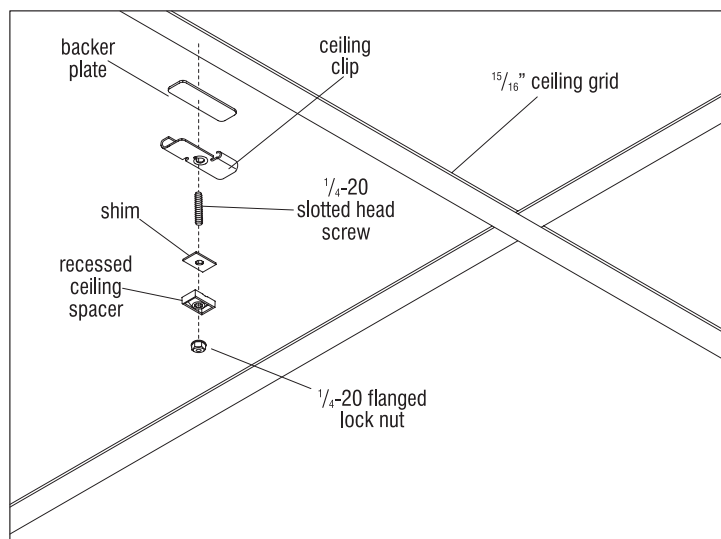
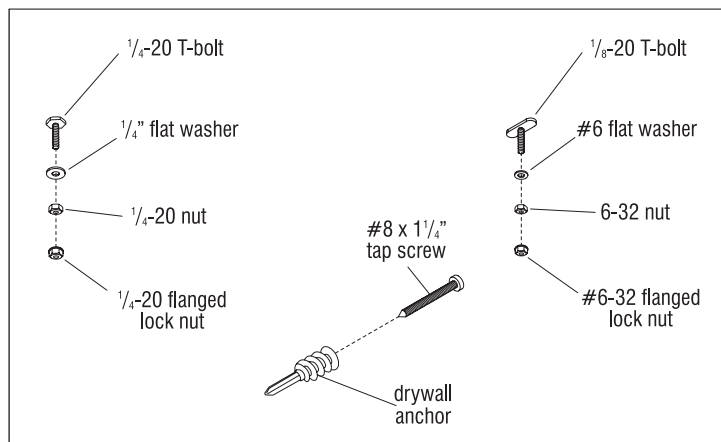

Figure 1 - $\frac{9}{16}$ " Ceiling Grid with Caddy Clips
Figure 2 - Types of T-bolts & Anchor Assemblies
- Many ceiling grids accept standard $\frac{9}{16}$ " and $\frac{15}{16}$ " wide Caddy® style ceiling clips. When ceiling clips are used in a recessed grid, spring spacers and closed cell foam must be used. Use backer plates by KI to prevent scratching of the grid (Figure 1). Fineline® $\frac{9}{16}$ " grids with a $\frac{1}{4}$ " reveal use $\frac{1}{4}$ "-20 T-bolts and $\frac{9}{16}$ " grids with a $\frac{1}{8}$ " reveal use $\frac{1}{8}$ "-20 T-bolts (Figure 2). Drywall and hidden grid ceilings require direct attachment of the rail with screws or anchors (Figure 2).
Important: Ceiling rails leading to a drywall wall must be installed with a 3" gap between the end of the ceiling rail and the wall. See page 19, Figure 1 for more information.
- Using the final KI Installation Drawings (shop prints) for reference and working in teams of two, fasten the ceiling rail hardware to the ceiling grid securely. For $\frac{15}{16}$ " grids, install the backer plate inside the clip, then twist the clip onto the grid. If the ceiling grid is recessed, add in the spacer and/or shims as needed. For Fineline® $\frac{9}{16}$ " grids, slide the T-bolt into the grid and install the washer and nut to secure the T-bolt into position (Figures 2 & 4).
- Measure from wall, column or other starting point to the first attachment point. Cut ceiling rail accordingly so that the slots in the rail match the grid layout (Figure 2).
- After positioning and securing the ceiling rail with flanged lock nuts (Figures 2 & 5), ensure that it cannot slide, does not push up ceiling tiles and that there are no light gaps between the ceiling and rail. Once the panels are up, adjustments to the ceiling rail location cannot be made without removing the panels.